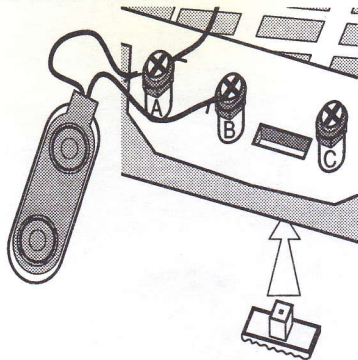

FIG. 6
- 1) Take the switch slider (Figure 6) and push it through the oblong hole between Posts B & C. Do this from the front of the console.